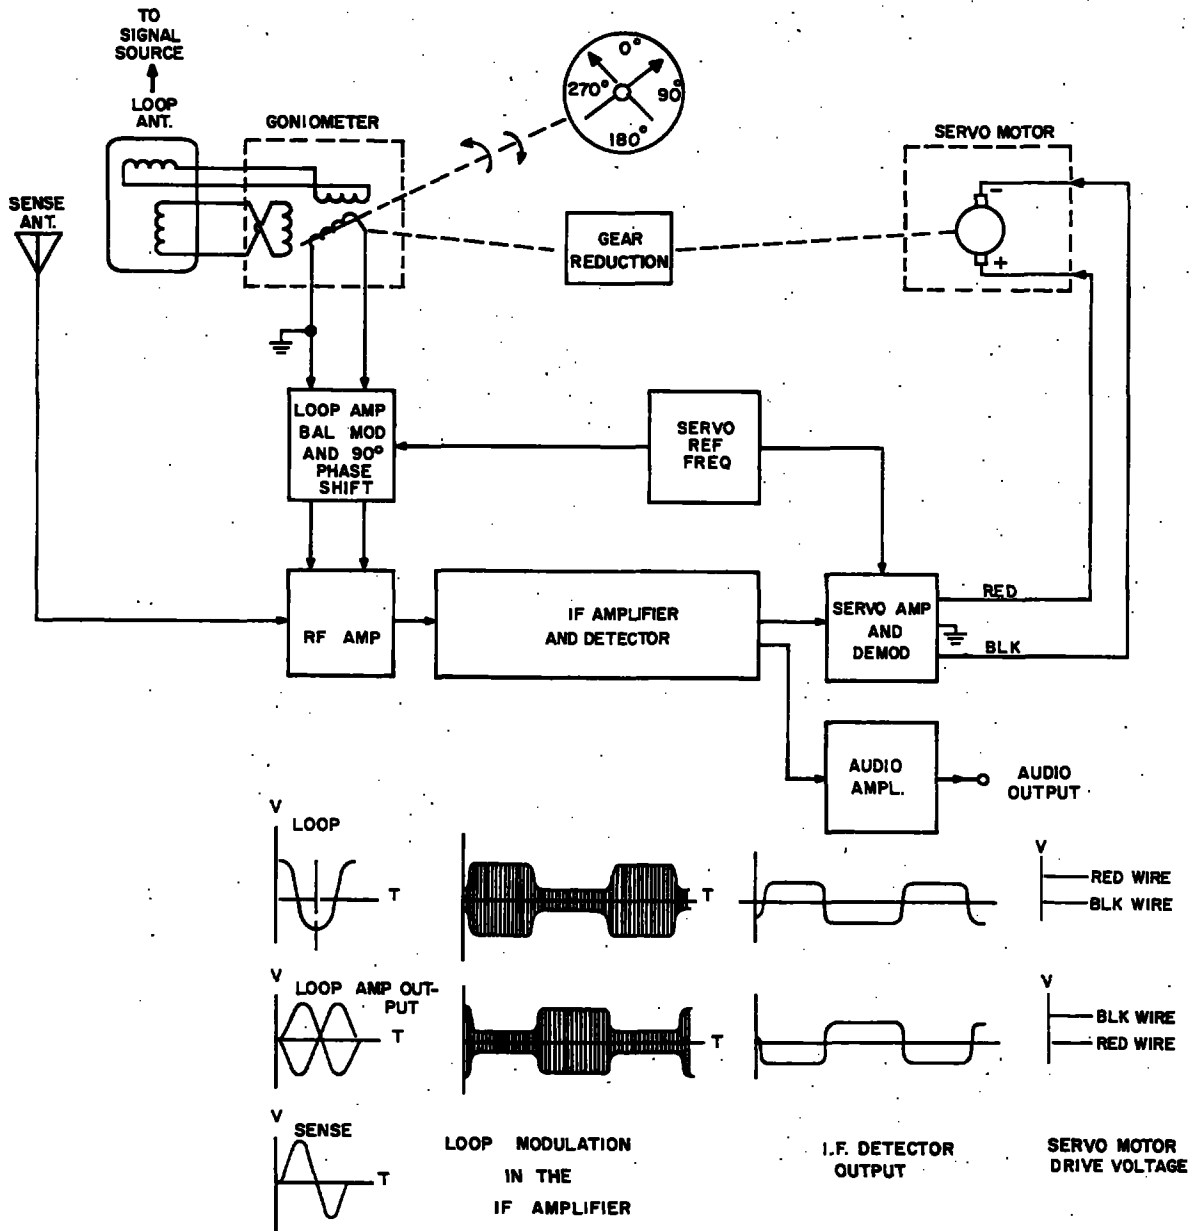

FIGURE 4-1 ADF OPERATION
4.1.1 OPERATION IN ADF MODE (Figure 4-1)